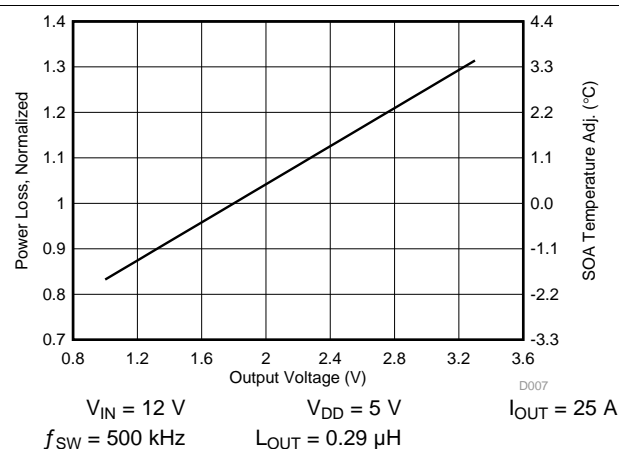

Figure 10. Normalized Power Loss vs Output Voltage
- Normalized Power Loss for output voltage ≈ 1.04 (Figure 10)
- SOA adjustment for output voltage $\approx 0.46^{\circ}\text{C}$ (Figure 10)